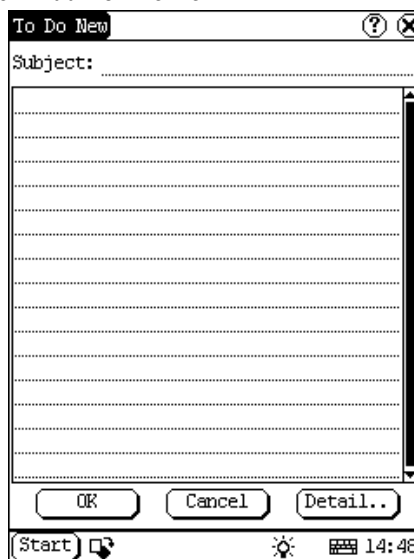

Figure 5-23
- 1) In the To Do interface, click [New] button to open the To Do New interface. See Figure 5-23.